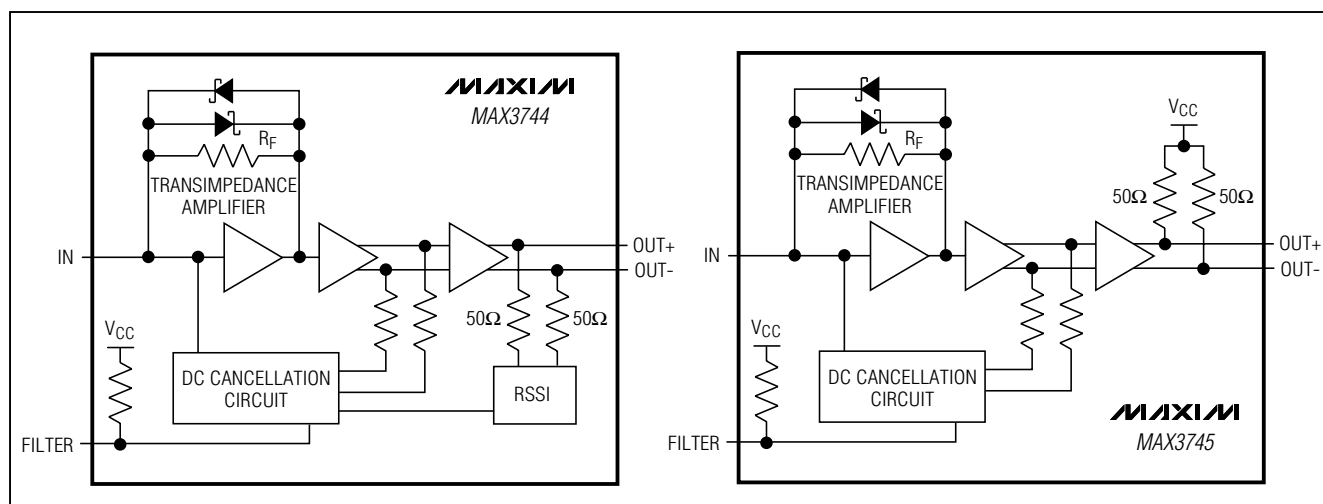

Figure 1. Functional Diagram
The MAX3744/MAX3745 are transimpedance amplifiers designed for up to 2.7Gbps SFF/SFP transceiver modules. A functional diagram of the MAX3744/MAX3745 is shown in Figure 1. The MAX3744/MAX3745 comprise a transimpedance amplifier stage, a voltage amplifier stage, an output buffer, and a direct-current (DC) feedback cancellation circuit. The MAX3744 also includes a signal strength indicator (RSSI). To provide this signal in